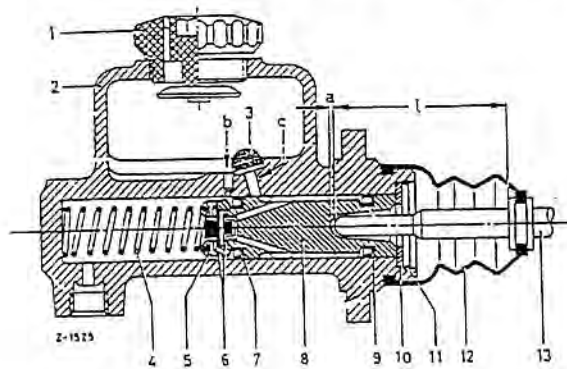

Fig. 29-3/3
Like the brake master cylinder the 2nd version of the supply cylinder contains a compensating part (b) and a connecting port (c). When the clutch pedal is released, the primary cup must not cover the compensating port, which would prevent the brake fluid from returning to the fluid reservoir when it heats up and expands. The primary cup (5) and the secondary cup (8) are on the piston and there is a piston cup washer (6) between the piston and the primary cup (Fig. 29-3/2).
The length L of the piston rod in this supply cylinder is also 46 mm (Fig. 29-3/5).